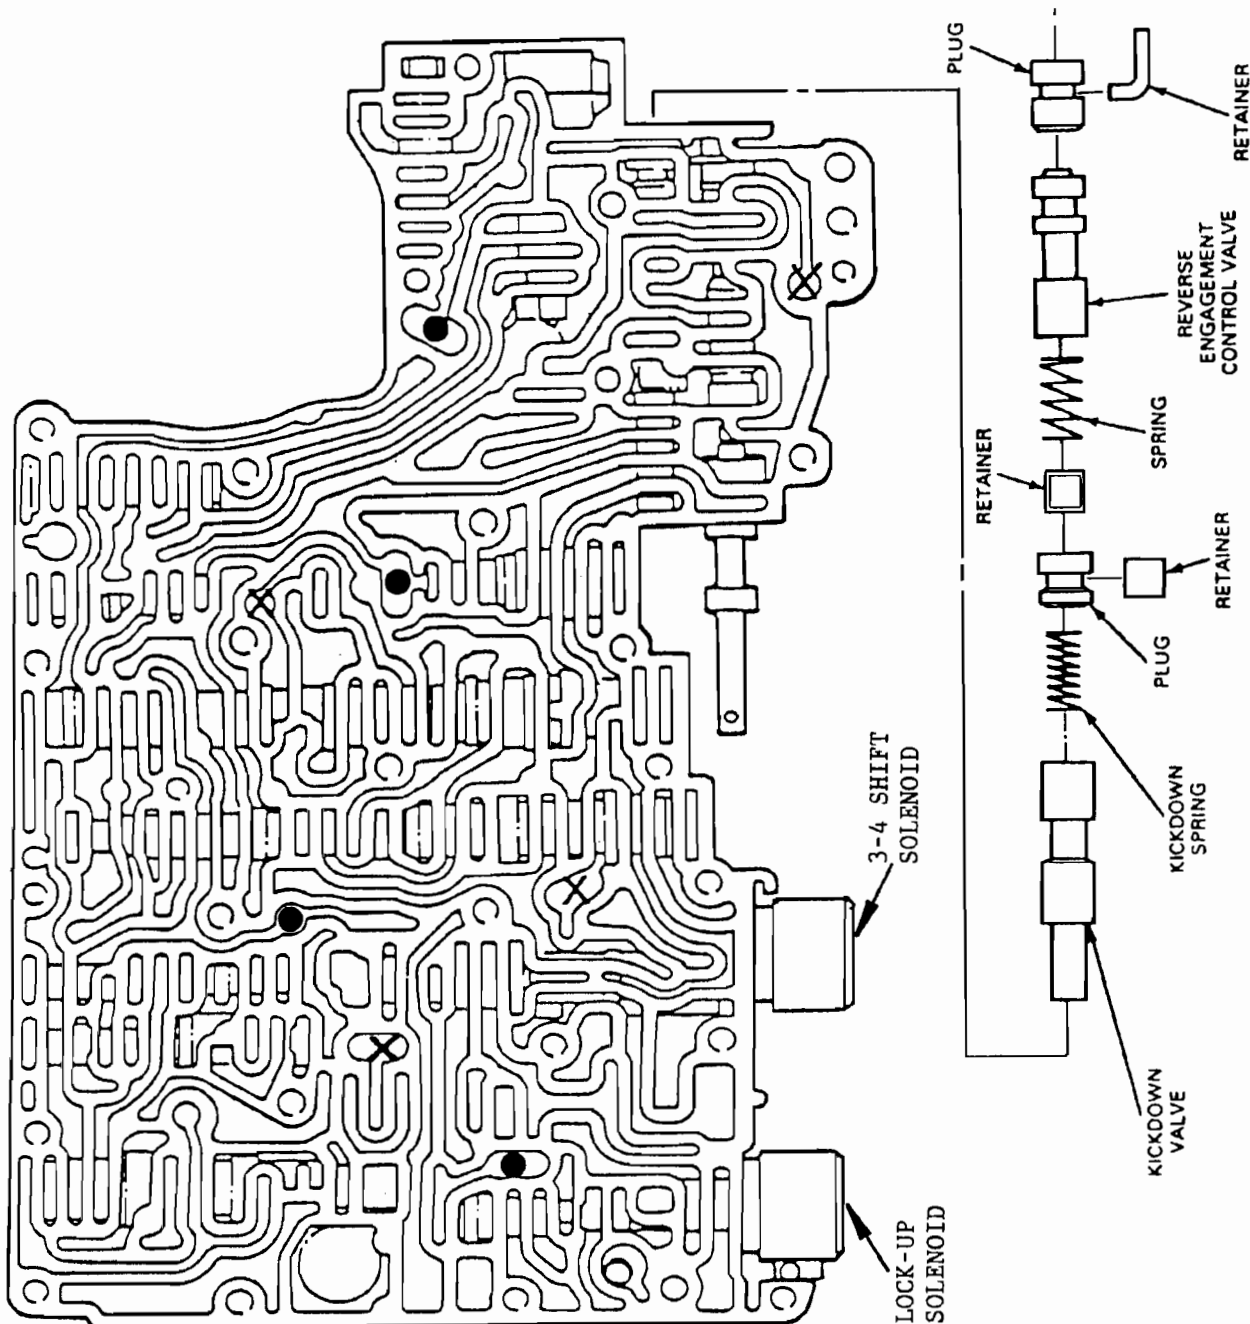

Figure 3
- 3RD DESIGN - This valve body has TWO Solenoids, 1 for converter clutch and 1 for the 3-4 shift, and DOES use a reverse engagement valve. These valve bodies require four (4) checkballs placed in the locations shown in Figure 3. DO NOT install checkball in the locations marked with an "X".
(SEE FIGURE 3).